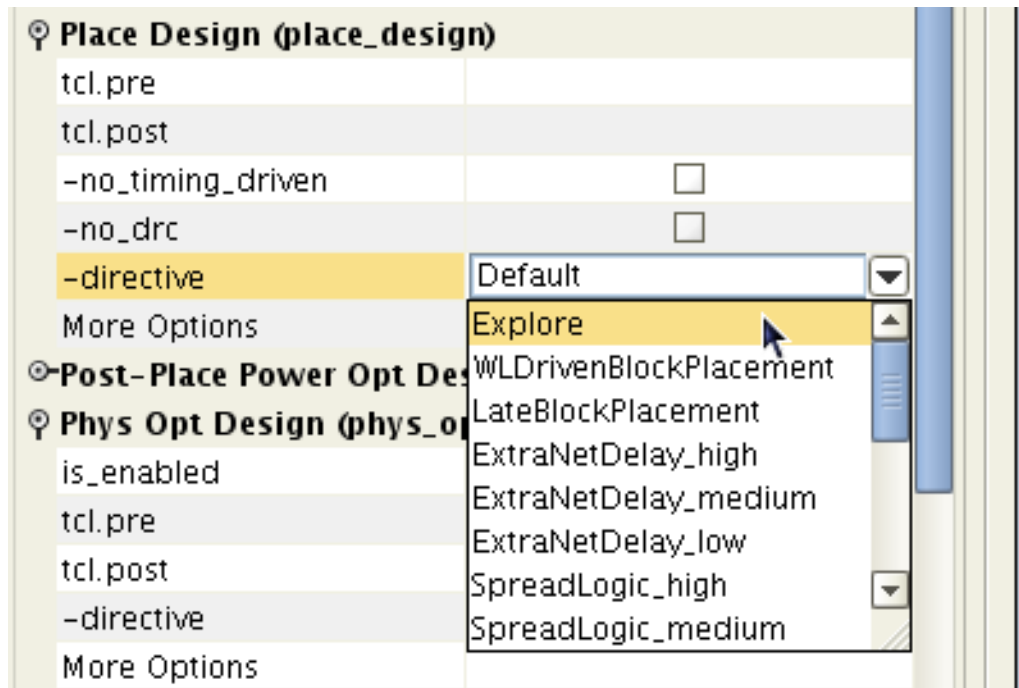

Figure 1-13: Edit Implementation Steps
8. Click the right-side column of a specific option to modify command options. See Figure 1-13, Edit Implementation Steps, immediately above for an example.